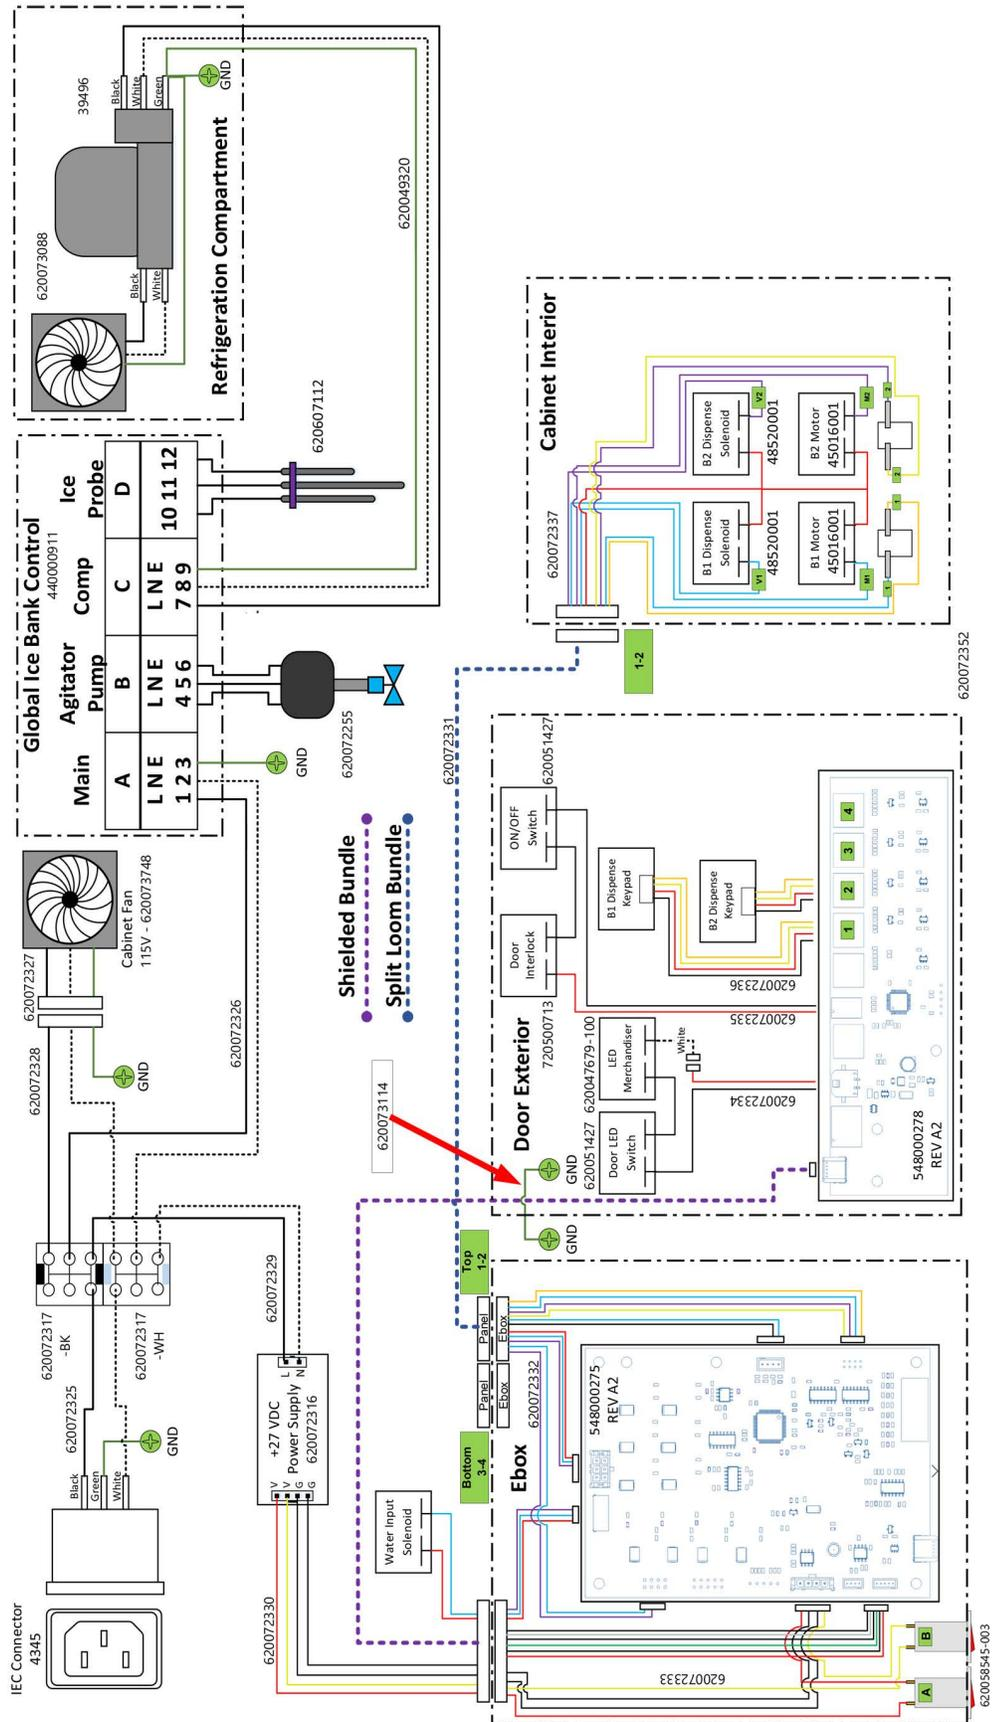

Figure 17. System Wiring Diagram Quest Elite 2FL - 115V Sold Out
1. Remove natural rubber nozzle bushing gasket (see Figure 17) and inspect it and silicone RTV. If cracked, clean off RTV and re-apply using kit P/N 729011013 per instructions provided with kit.